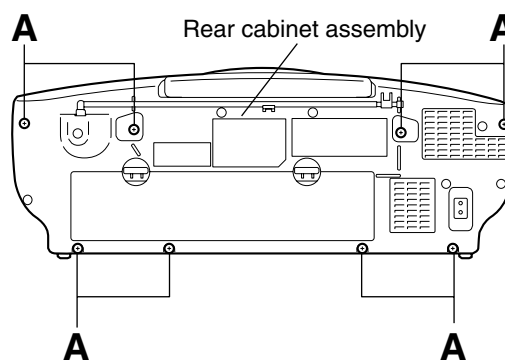

Fig.2
■ Removing the front cabinet assembly and rear cabinet assembly (See Figs. 2 to 5.)
(See Figs. 2 to 5.)
1. Remove the eight screws **A** retaining the front cabinet and rear cabinet assemblies from the rear of the main body. (See Fig.2.)